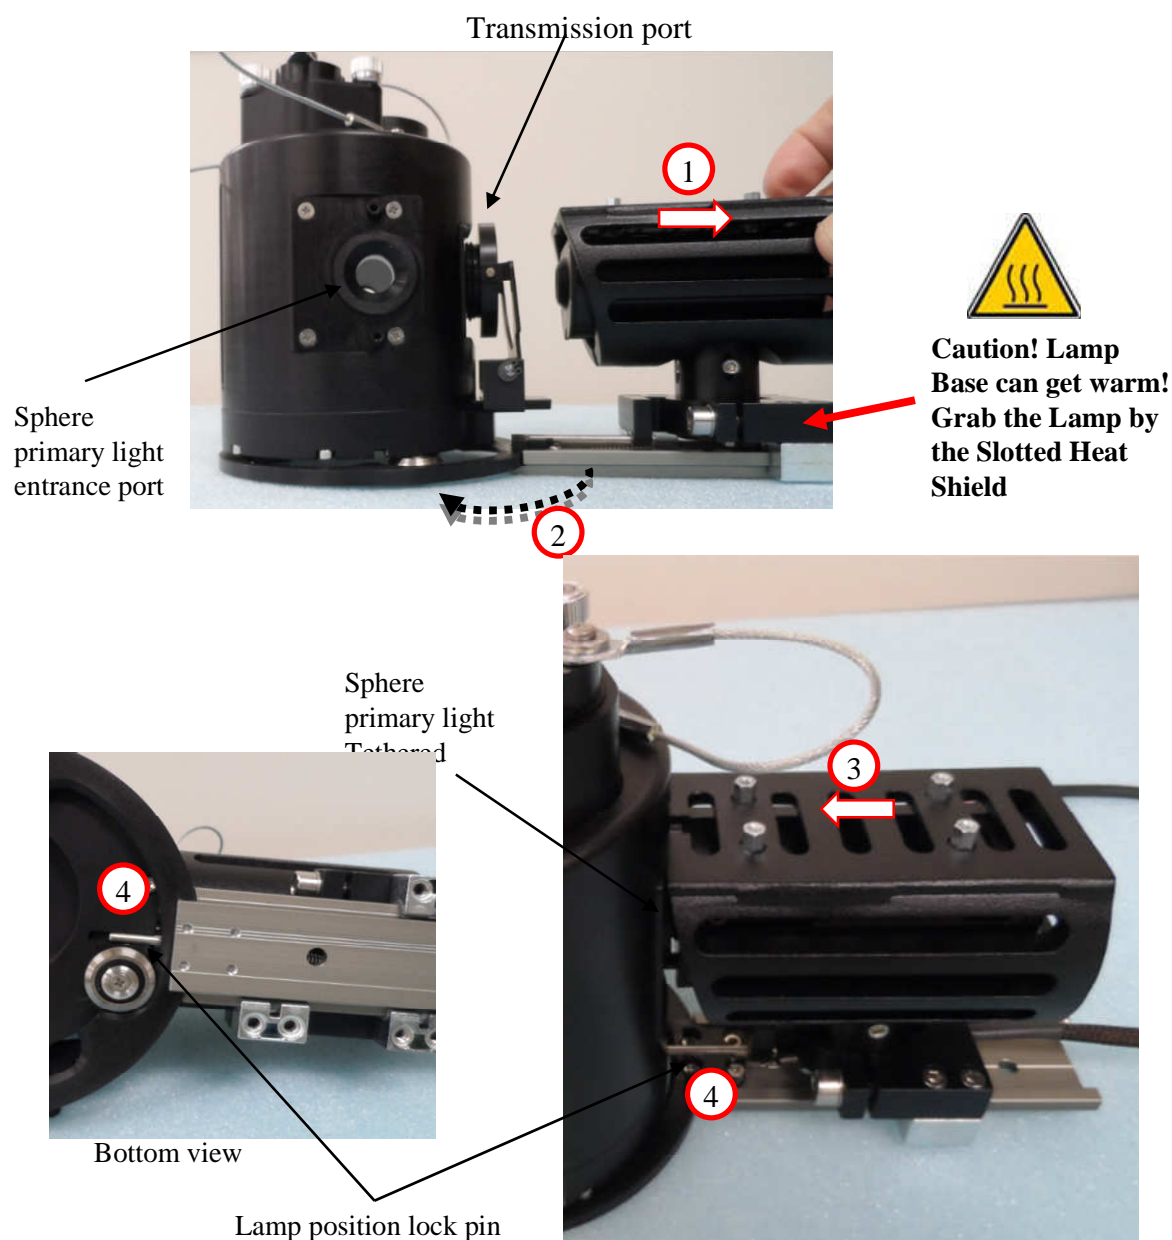

Figure 13: Changing lamp position
1. Disengage the lamp assembly by pulling it away from the sphere as shown in Figure 13.